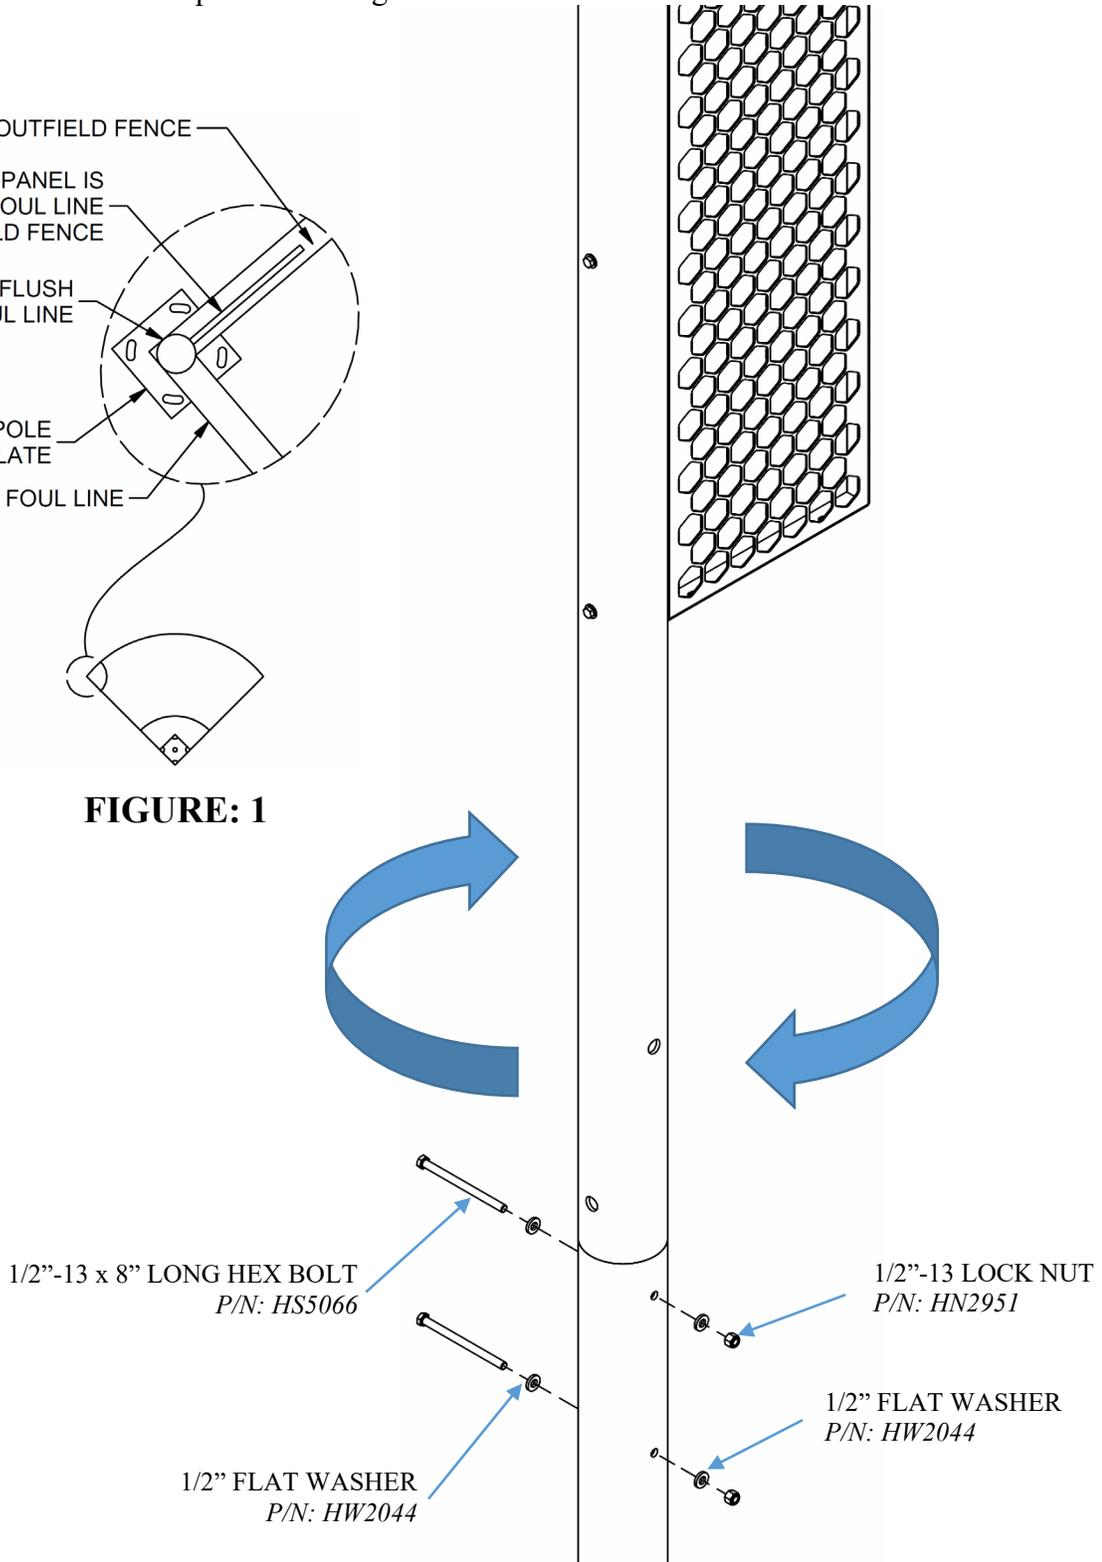

FIGURE: 6
3. Drill the two holes in the top upright pole to accommodate the hardware as shown figure 6. This finalizes the location. *Note drill holes for 1/2" hardware.*